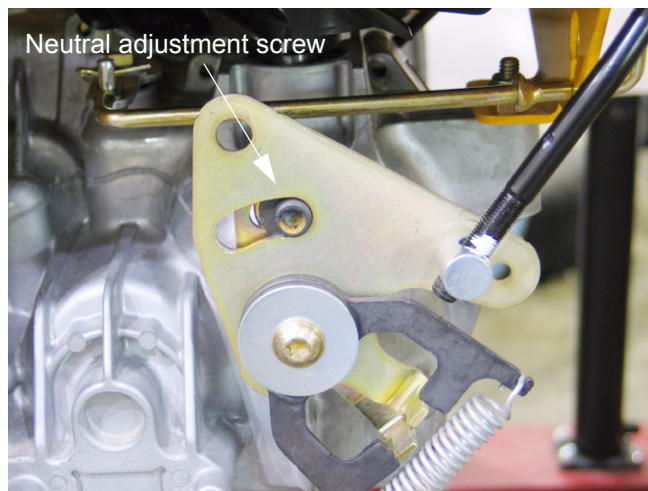

Figure 7.11
7.11. The socket head cap screws that secure the neutral return assemblies to the EZTs act as a travel stop at the EZT end of the linkage. The lap bar pivot brackets should contact the stop screws before the socket head cap screw contacts the end of the slot on the neutral bracket. See Figure 7.11.